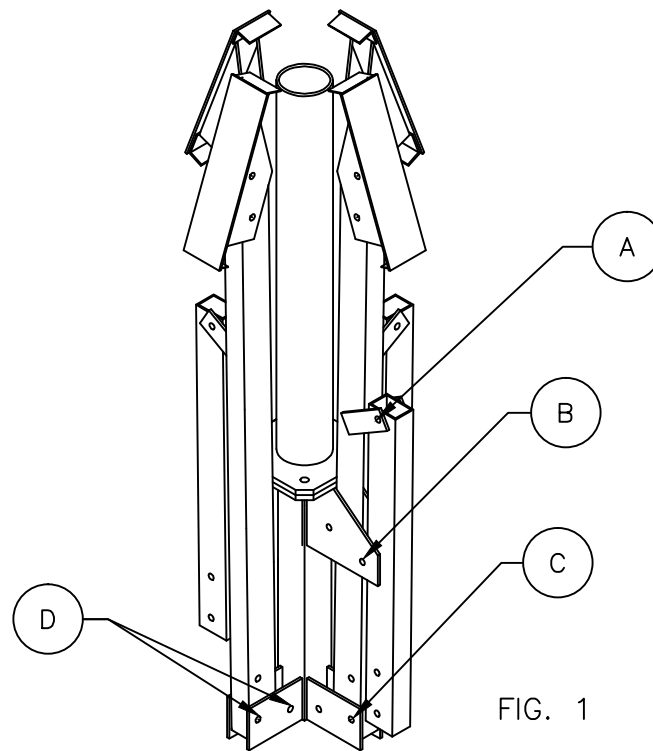

FIG. 1
THE VL-4 MOUNTING SYSTEM IS SHIPPED ASSEMBLED AS SHOWN IN FIG.1
- 1.) THE FOLLOWING INSTRUCTIONS WILL BE HELPFUL IF THE UNIT WAS NOT RECEIVED PACKAGED AS SHOWN IN FIGURE 1.
- 3.) LOCATE A 56" ARM & WITH THE TABS POINTING DOWNWARD & AWAY FROM THE BASE. ATTACH THE ARM TO THE UPPER FINNS ON THE BASE WITH (2) 1/2"x3-1/4" BOLTS, NUTS & LOCKWASHERS (NOTE: DO NOT TIGHTEN HARDWARE UNTIL MOUNT ASSEMBLY IS COMPLETE).
- 4.) ATTACH THE 31" BRACE TUBE TO THE LOWER FINNS ON THE BASE USING (2) 1/2"x3-1/4" BOLTS, NUTS & LOCKWASHERS. ATTACH THE OTHER END OF THE BRACE TO THE TABS ON THE 56" LONG ARM TUBE USING (1)1/2"x3-1/4" BOLT, NUT & LOCKWASHER. (NOTE THE SINGLE HOLE ON THE ON THE BRACE SHOULD BE TOWARDS THE TOP OF THE TUBE).
- 5.) ATTACH A SHOE TO THE END OF EACH OF THE 56" LONG ARMS USING (2) 1/2"x3-1/4" BOLTS, NUTS & LOCKWASHERS PER SHOE.